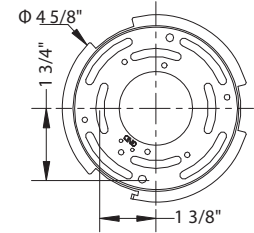

Fig. 4
14. For sloped ceiling applications, rotate the swivel at the top of the rods to ensure luminaire is aiming down (Fig.4).